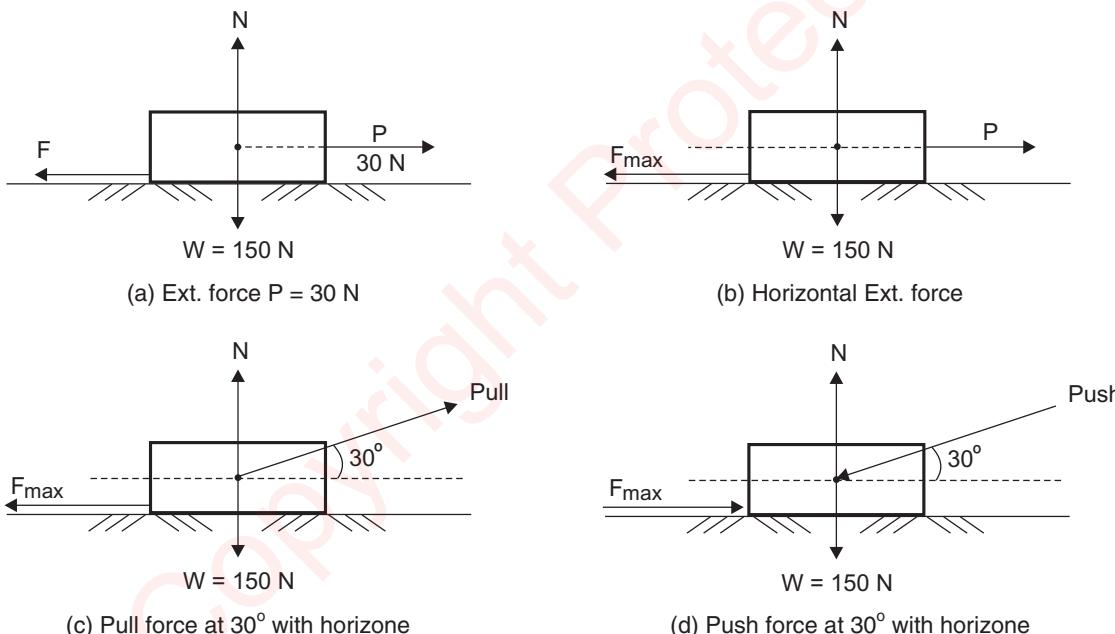

Fig. 3.7
- (a) $W = 150$ N, $\mu = 0.25$ & $P = 30$ N. [fig. 3.7(a)]
- (b) $W = 150 \text{ N}$, $\mu = 0.25$ [Fig. 3.7(b)]
- (c) $W = 150 \text{ N}$, $\mu = 0.25$ [fig. 3.7(c)]
- (d) $W = 150 \text{ N}$, $\mu = 0.25$ [Fig. 3.7(d)]